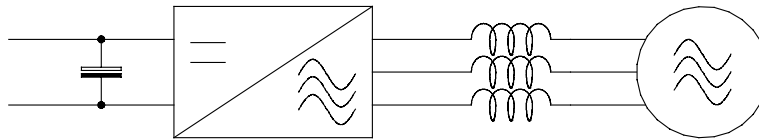

Figure 2 A DC/three-phase converter and three-phase supply system.
- (b) A DC/three-phase converter is connected as shown in figure 2 to a 415 V(line), 50 Hz three-phase system via a set of inductors of 4 mH each. Calculate the inverter voltage (magnitude and phase) necessary to supply 35 kW from the inverter to the three-phase system at unity displacement factor. Calculate the voltage required to draw 35 kW from the three-phase system into the inverter.